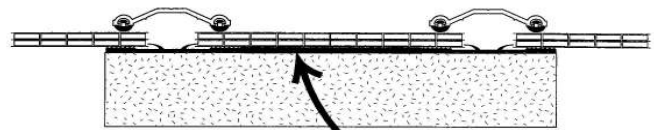

Fig.4 Eaves Filler
Step 3: Fix the eaves filler (ref. P226F), if used, across the structure at the eaves end (Fig.4). This solves the problem of filling the gap between the underside of the sheet and the top of the support structure.